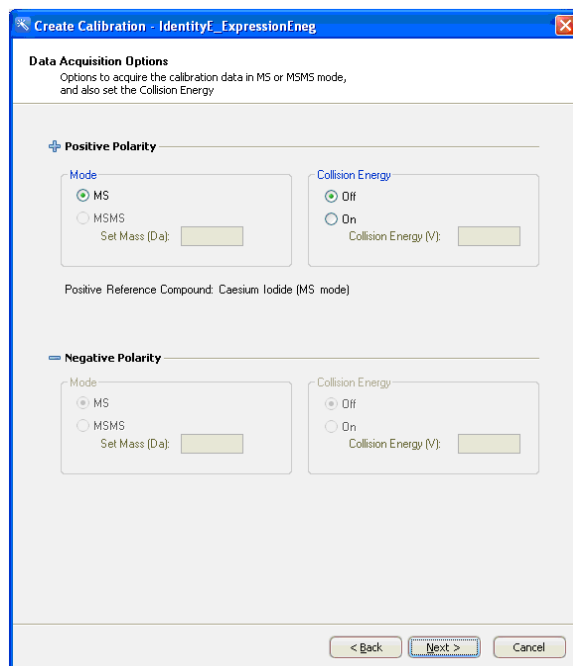

Figure 81 - Data acquisition options
11. Click **Next**. The data acquisition options (Figure 81) are automatically populated by IntelliStart.